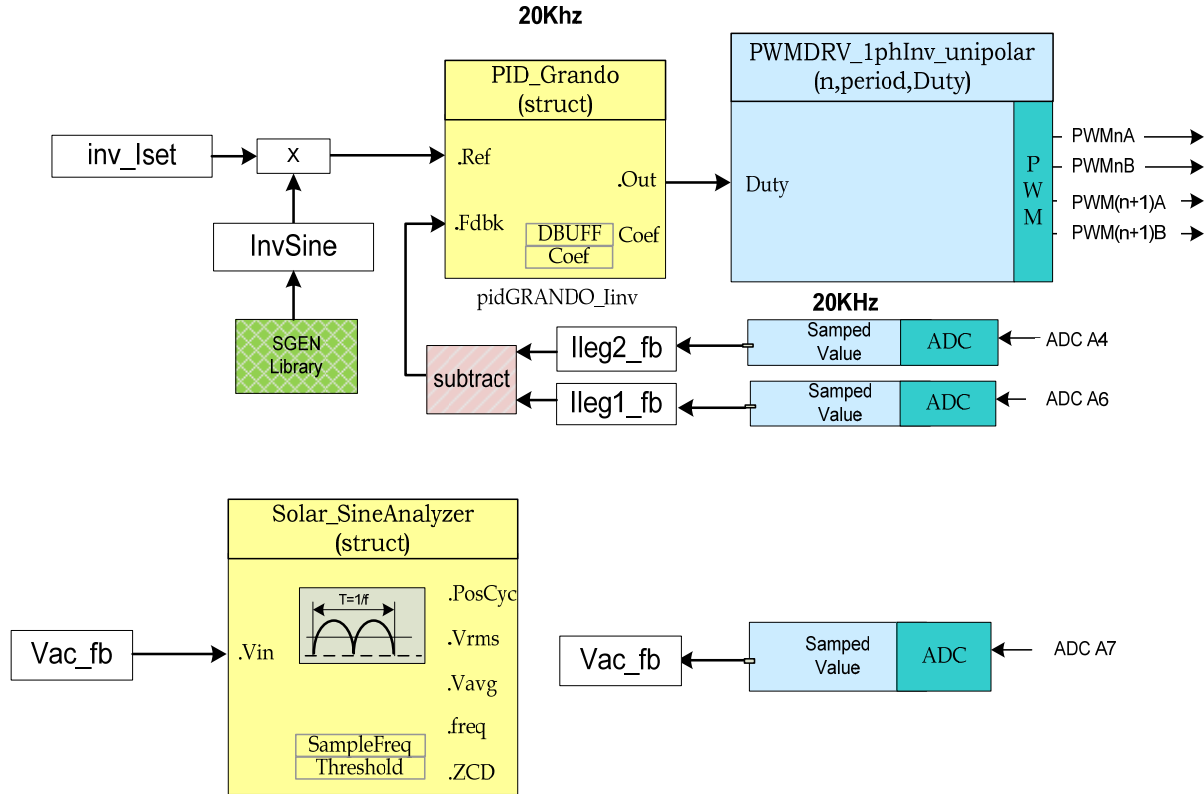

Fig 19 Build 1 Control Software Diagram
The PWM and ADC driver macro instantiations are executed inside the *SolarExplorer-Main.c* file. Fig 19 shows the software blocks used in this build. The quantities that are sensed and fed back to the MCU include - (1) the two inverter leg currents (*lleg1_fb*, *lleg2_fb*) sampled at appropriate time instance and the difference saved as *inv_meas_cur_diff_inst*, (2) Output AC voltage (*Vac_FB*) and (3) the DC bus voltage (*VboostRead*), not used in this build.